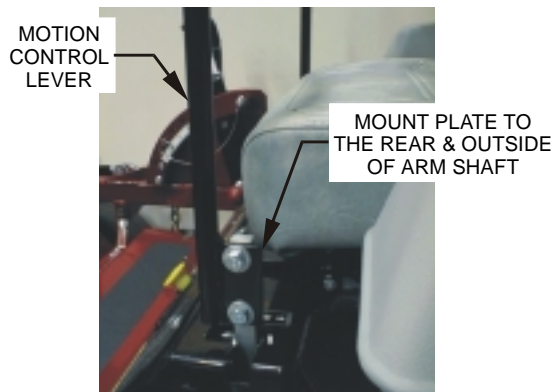

FIG. 4
- Loosen and remove the two (2) $\frac{3}{8}$ " x 1" bolts and spring disc washers which attach the motion control levers to the control arm shafts for shipping and the two (2) $\frac{3}{8}$ " x 1" bolts and spring disc washers which are screwed into the control arm shafts.
- a) Install the left motion control lever onto the control arm shaft (See Fig.4) on the left side of the console. Place the lever (with the mounting plate towards the rear) on the **outside** of the control arm shaft and secure with the bolts and washers. Position the lever so the bolts are in the center of the slots on the lever mounting plate and tighten until snug. Repeat on opposite side of unit. If the levers do not align with each other, when in the neutral position, (See Fig. 5) loosen the hardware and make the appropriate adjustment by sliding/tilting the lever(s) forward or backward until properly aligned and tighten hardware.